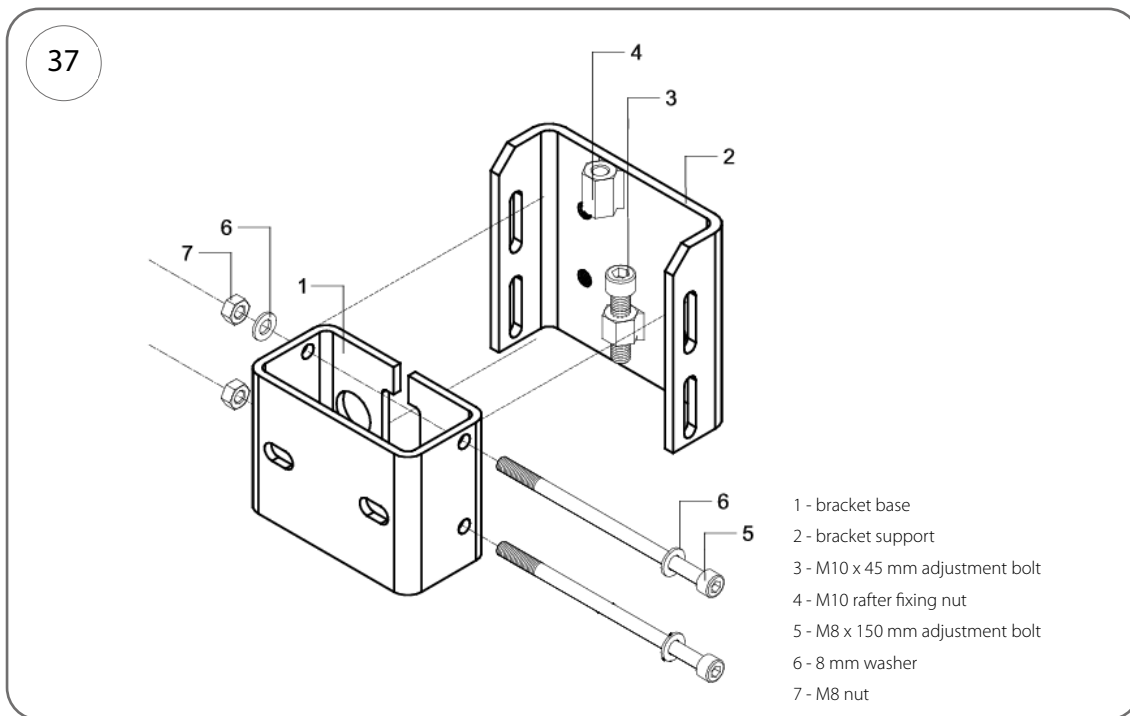
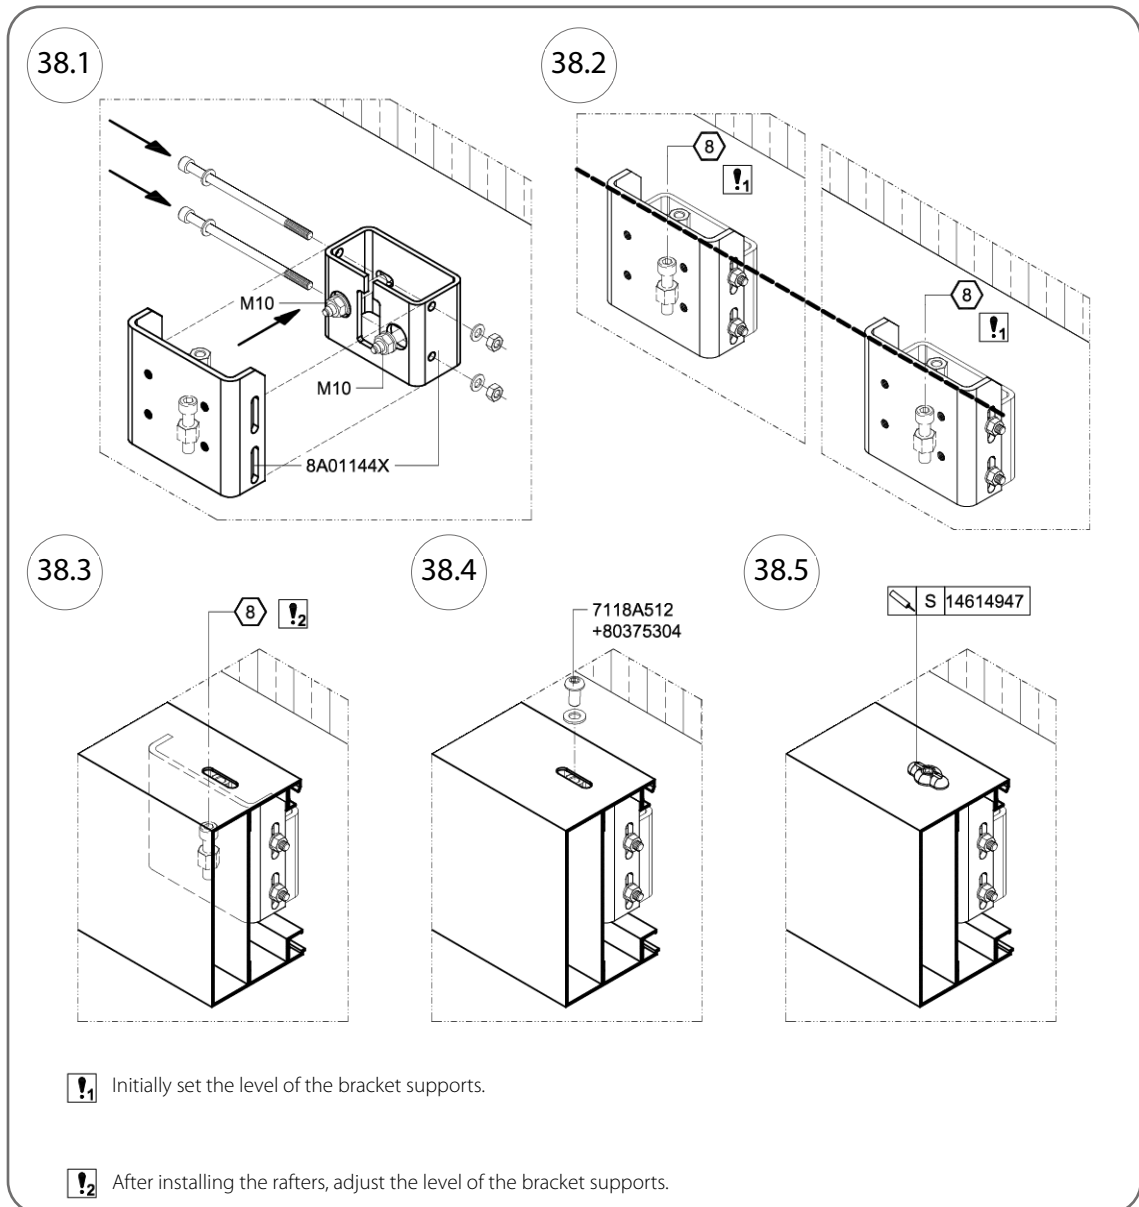

Fig. 37
Fig. 38
6. Secure the rafter permanently by screwing M10 x 20 mm bolts with washers (cat. no. 7118A512+80375304, Fig. 38.4) into the nuts (4), as shown in Fig. 37 and Fig. 38.